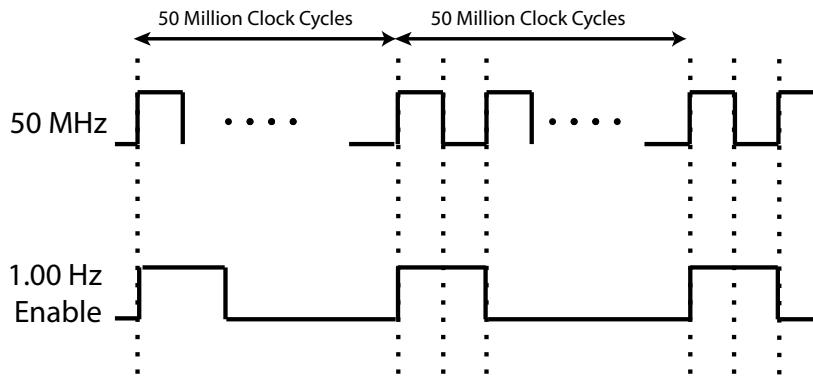

Figure 2: Timing diagram for a 1 Hz enable signal
Let's start with the **Rate divider** module. A **Rate Divider** is a counter that is used to create a slow *pulse* given a faster clock signal. A *pulse* is when a signal is 1 for a single clock period but is 0 at other times. Figure 2 shows a timing diagram for a 1 Hz pulse for an input clock of 50 MHz.
**Creating a pulse.** To create a pulse, you need to count  $N$ -cycles of your input clock before generating your pulse. For example, to create a 5 MHz pulse given a 50 MHz clock, you count 10 cycles of the 50 MHz clock. As you can see, the sizing of your counter depends on ratio between your **clock frequency** and your **pulse frequency**. **Question:** For the case shown in Figure 2, how many bits should the counter be?